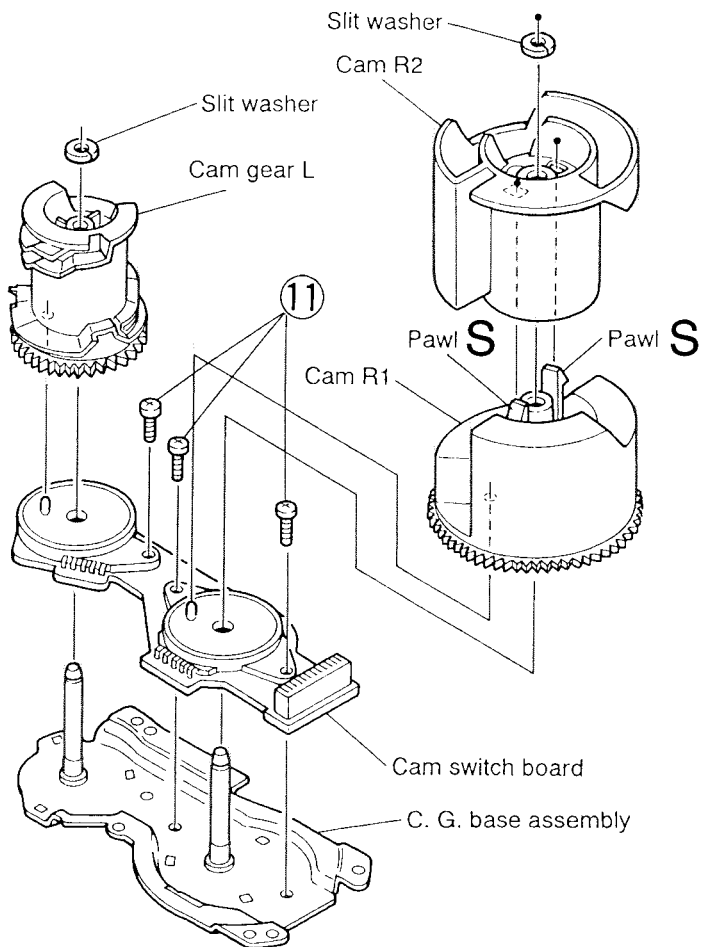

Fig.5-57
■ Removing the cams R1/R2 assembly and cam gear L (See Fig. 5-57)
(See Figs. 5-57 and 5-58)